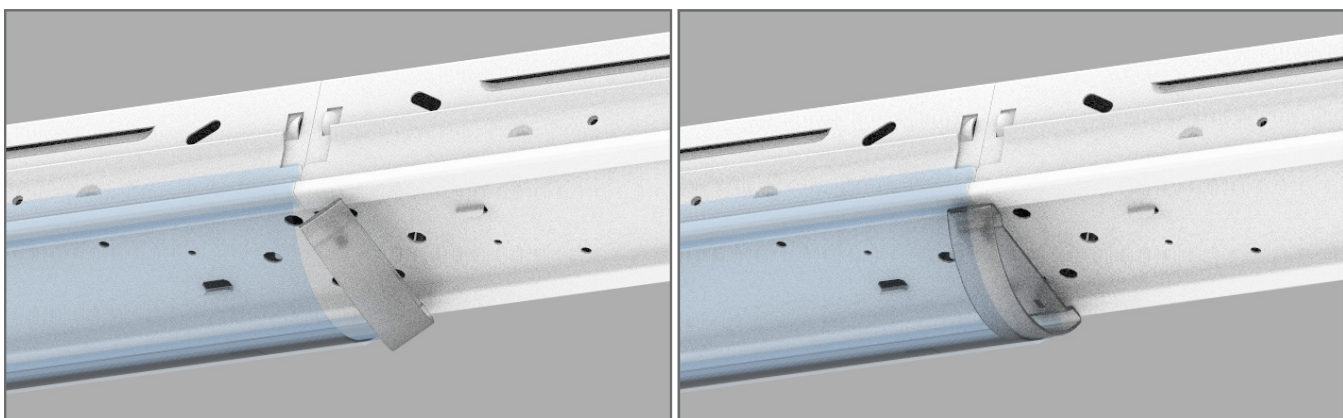

**FIGURE 21**
4. From the inside, insert 4 self-tapping screws at the circled location in Figure 21 to secure the housings to the bracket.